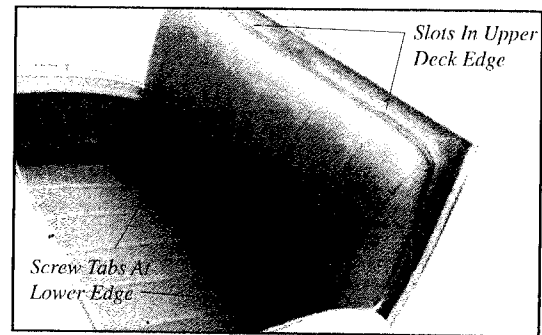

Figure 4-216
24. Install seat cushion back assembly on Deck Lid. Insert hooks in slots at upper edge of Deck Lid. Install cardboard between the Deck Lid panel and the seat back cushion to prevent squeaks (Although few have this cardboard installed, it was originally placed behind the seat cushion). Secure the lower edge of the seat back cushion to the Deck panel using a bolt and plain washer through the holes in the tabs provided on the seat back frame (Figure 4-216).